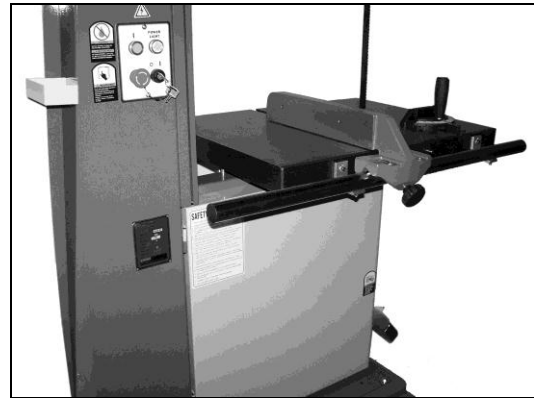

Figure 3
4. Place the fence on the rail as shown in Figure 3. Use the slotted holes in the rail brackets to raise or lower the front end of the fence so it closely matches the height of the rear end of the fence. Tighten into place.
5. To fix the measuring tape to the rail, move the fence into position so that it is just touching the blade as seen in Figure 3. Note that the fence has two position indicators. Cut the tape in the middle between the two zero's.